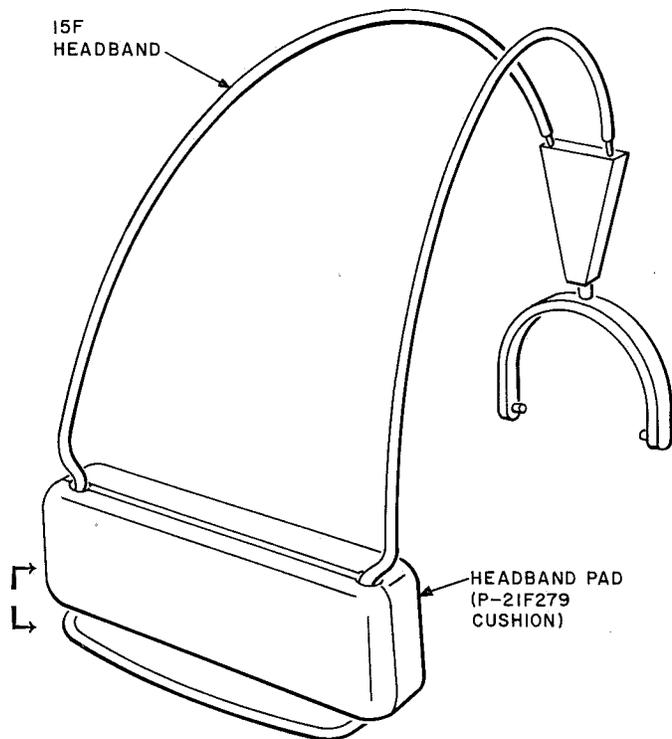

Fig. 9 — Synthetic Foam Headband Pad in Position on Headband
**3.13 Synthetic Foam Headband Pad:** Remove the pad from the headband. To place the synthetic foam headband pad on the headband, pass the free end of the headband through the slot of the pad, making sure the thicker half of the pad is on the inner side as shown in Fig. 9.